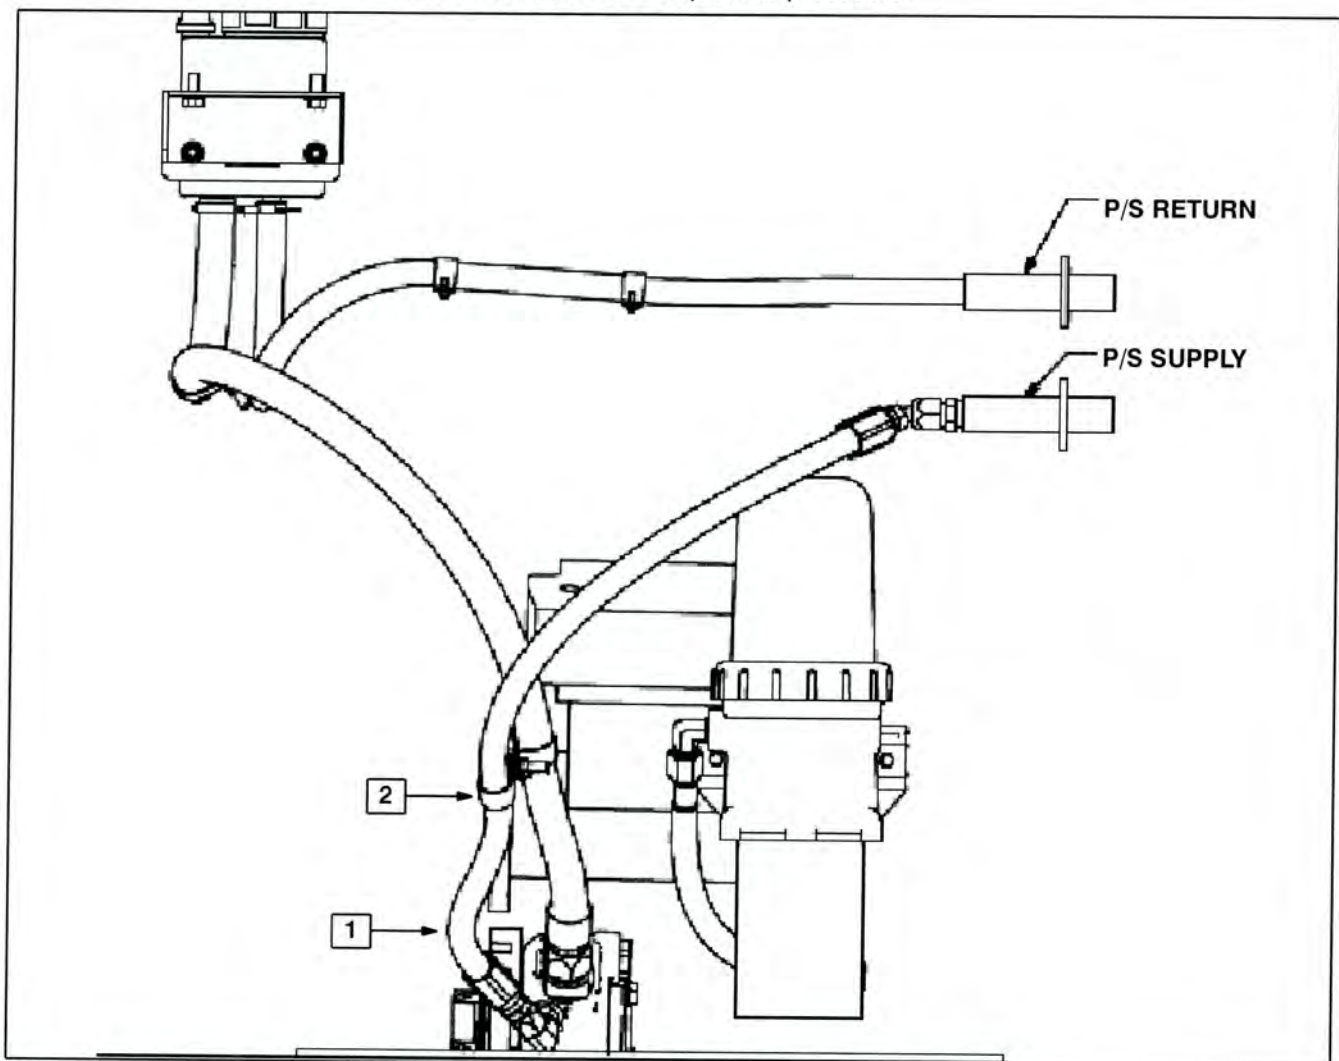

Figure 1. Existing configuration, pre-retrofit.
3. Locate the power steering pressure hose (supply), p/n 11-08-1363 (refer to Figure 1). Disconnect the lower end of the power steering pressure hose to drain the oil into a suitable sized container. Discard the oil. Using a clean cloth, wipe clean the installation area.
4. Remove and discard the power steering pressure hose, p/n 11-08-1363, and the clamp (refer to Figure 1). Retain the capscrew and nut to be used at a later step in this procedure.